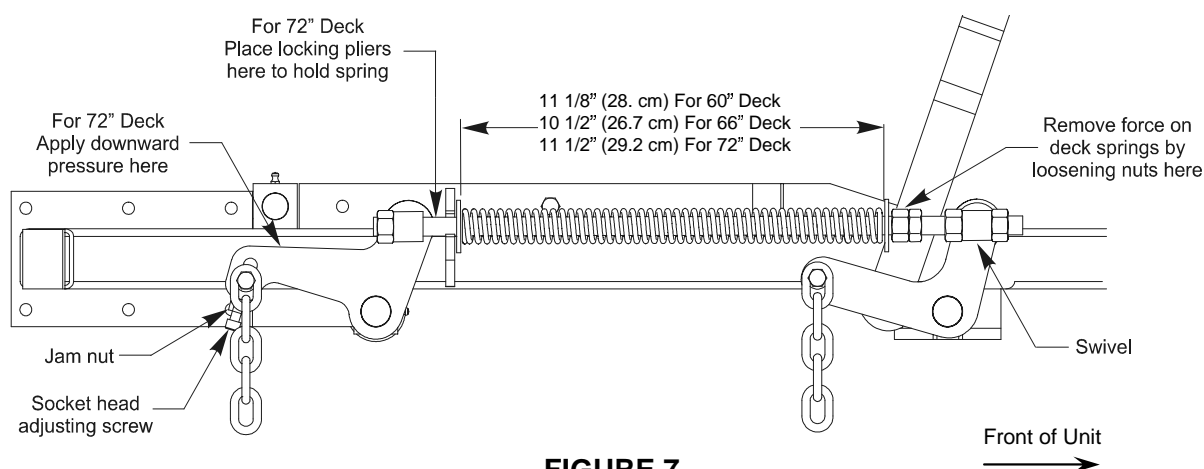

FIGURE 7
- e) Raise the deck to the 5" (12.7 cm) height position (also transport position) and take all force off of the two large deck lift springs by loosening the nuts at the front of each spring. See Figure 7.
For 66 & 72" units – Lower the deck to the 1-1/2" (3.81 cm) height position. Force the left rear deck support arm downward about 1/4" (6.4 mm) to get the deck to rest at the 1-1/2" height position. Place locking pliers between the rear swivel and spring stop to hold the deck in this position. See Figure 7.
- l) Raise deck lift lever to the 5" (12.7 cm) cutting height position See Figure 5. Adjust spring compression until proper distance is obtained between the two large washers (See Figure 7). Adjustment is made by turning the nut at the